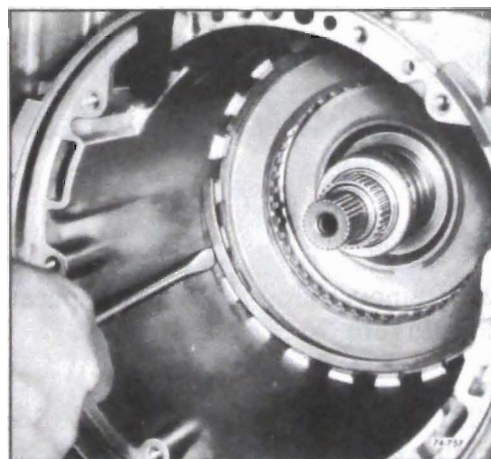

Figure 76-550
12. Remove intermediate clutch backing plate to case snap ring. See Figure 76-550.